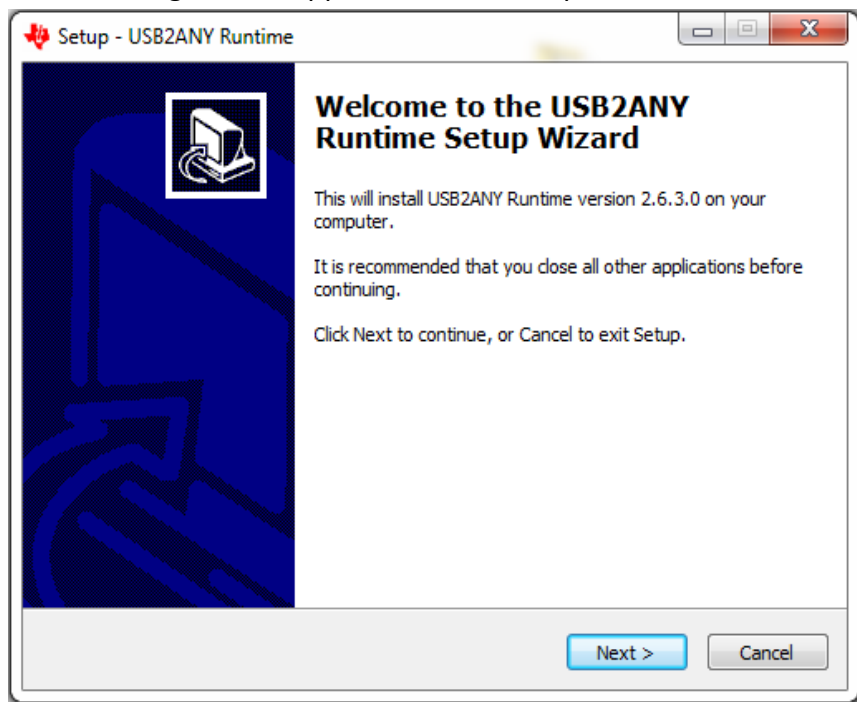

Figure 1-9 USB2ANY Installation Initialization
8. A screen as shown in Fig.1-9 will appear, click Next to proceed